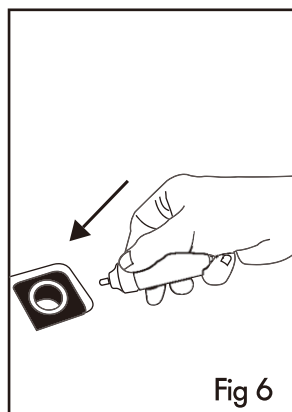

Fig 6
4. Connect the adapter into the DC socket in your car (See Fig 6).